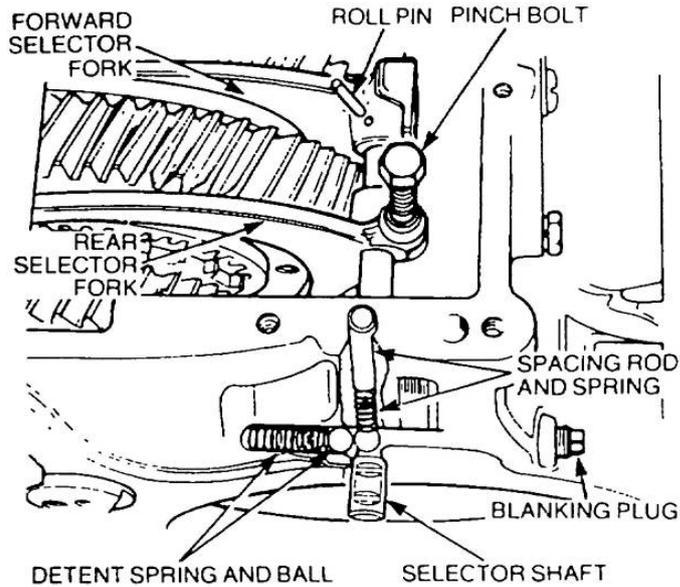

Figure 75 Removal of the Transfer Selectors
- v. Remove the roll-pin securing the selector fork to the shaft (Figure 75) and move the selector to the front of the casing.
- m.** Insert the detent spring in the transfer case drilling and install the detent ball (Figure 75). Push the ball against the spring and insert the selector shaft. Position the rear selector, with the plain face to the rear, on the shaft ensuring that the fork engages the rear side of the input gear. Push the shaft further and position the front selector on the cross-shaft selector with the extended boss to the rear and forks engaging the front side of the input gear. Insert the shaft fully to allow the roll-pin hole in the front selector to align with the hole in the shaft and secure it with a new roll-pin.
- n.** Install the detent ball, spring and spacing-rod into the vertical drilling. Smear a suitable sealing compound on the blanking plug threads and fit the plug in the casing (Figure 75).